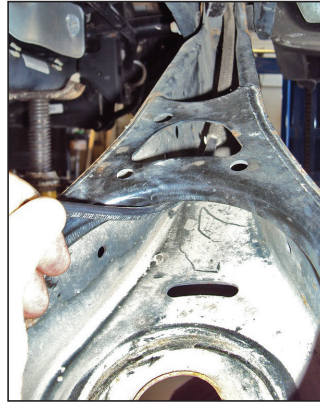

fig. 22
14. Route the air line from the center of the cross-member, through the lower transverse link and attach insert into the air fitting (Fig. 22).